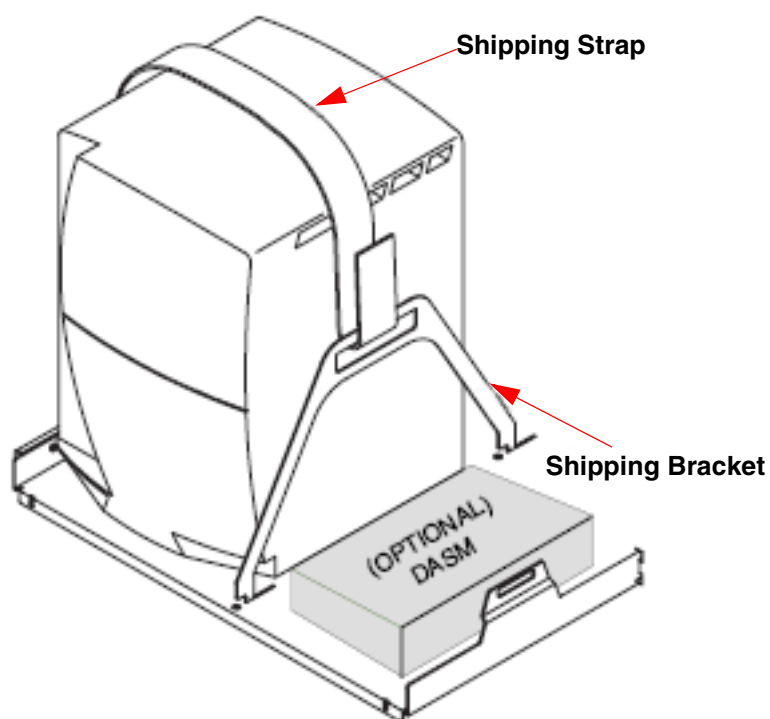

Figure 2-4 Shipping Strap Detail
- 2.) Remove the velcro strap before turning on the power. The strap blocks the cooling air vents. Store the strap for future use (see Figure 2-4).
- 3.) Remove and store the metal bracket (see Figure 2-4).